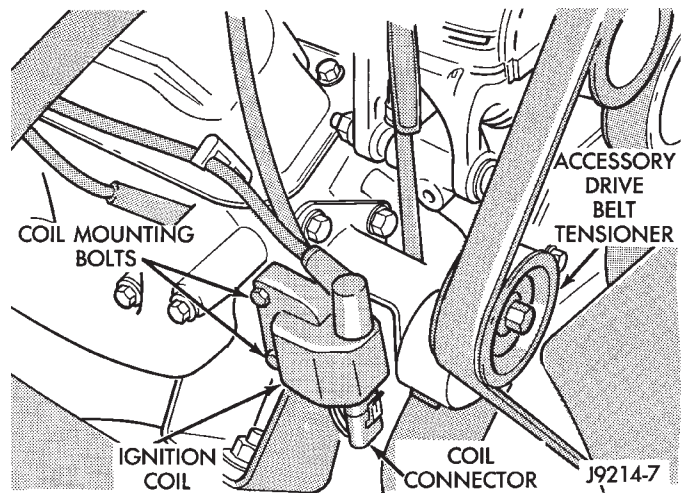

Fig. 25 Ignition Coil—5.2L/5.9L Engines
(4) Inspect ignition coil connections. Verify that coil secondary cable is firmly connected to coil (Fig. 25).
(5) Verify that distributor cap is correctly attached to distributor. Be sure that spark plug cables are firmly connected to the distributor cap and the spark plugs are in their correct firing order. Be sure that coil cable is firmly connected to distributor cap and coil. Be sure that camshaft position sensor wire connector (at the distributor) is firmly connected to harness connector. Inspect spark plug condition. Refer to Group 8D, Ignition. Connect vehicle to an oscilloscope and inspect spark events for fouled or damaged spark plugs or cables.
(6) Verify that generator output wire, generator connector and ground wire are firmly connected to the generator.